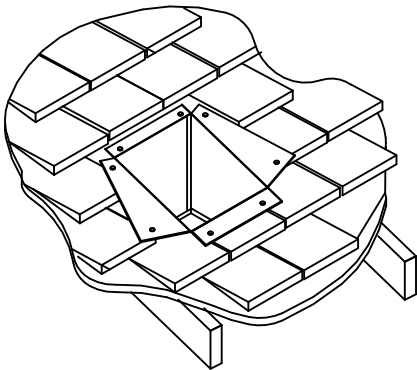

Figure 21
**Step 5.** Using tin snips, cut the Support Box from the top corners down to the roofline, and fold the resulting flaps over the roof sheathing. The flaps may be trimmed as needed (**Fig. 21**). Before nailing it to the roof, run a bead of non-hardening sealant around the Support Box, to make a seal between the Support Box and the roof. Clean out any combustible material from inside the Support Box.